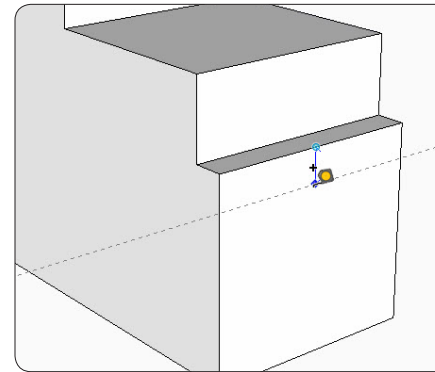

Figure 11. A new Parallel Guide Line marks the width of the tongue.
Step 8 Use the Tape Measure Tool to create another Parallel Guide Line $\frac{1}{2}$ in. down from the upper shoulder of the tongue, as shown in Figure 11.